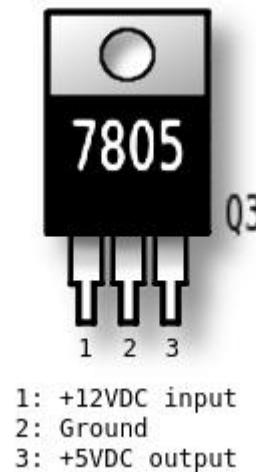

Fig. 45 – Check for +5V across pins 2 and 3 of 7805 (Q3).
- ✓ Check the 7805 (at Q3) with a volt meter and verify it's +5V output: red probe to pin 3, black probe to pin 2 GND (See Fig. 45).